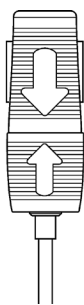

Fig. 8
- Confirm that the reference indicator on the insertion sheath is facing up. To ensure proper orientation of the Angio-Seal device with the sheath, the sheath cap and the device sleeve only fit together in the correct position. The reference indicator on the device cap should align with the reference indicator on the insertion sheath cap (Figure 8). Keeping the insertion sheath in place, carefully advance the Angio-Seal device in small increments until completely inserted into the insertion sheath. The sheath cap and the device sleeve will snap together when properly fitted.